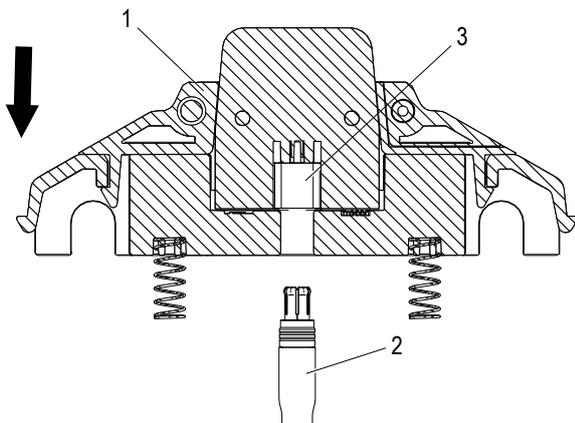

Fig. 180: Collector housing (1) is mounted on data cable (2)
→ Connect the collector housing, including the glued-in compression spring (1), to the data cable (2) (see Fig. 180).